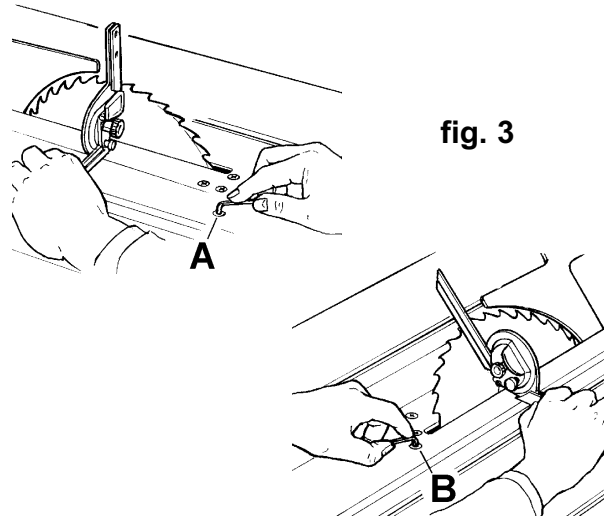

fig. 3
**Initial set-up** - before first use set blade angle to 0° on scale and confirm, using a square, that the blade is at 90° to the table. If it is not, loosen locking handle and adjust stop screw (fig. 3.A) to give 90°. Similarly, set the blade at 45° on the scale and check that the blade to table angle is 45°. Any required adjustment is provided by stop screw (fig. 3.B).